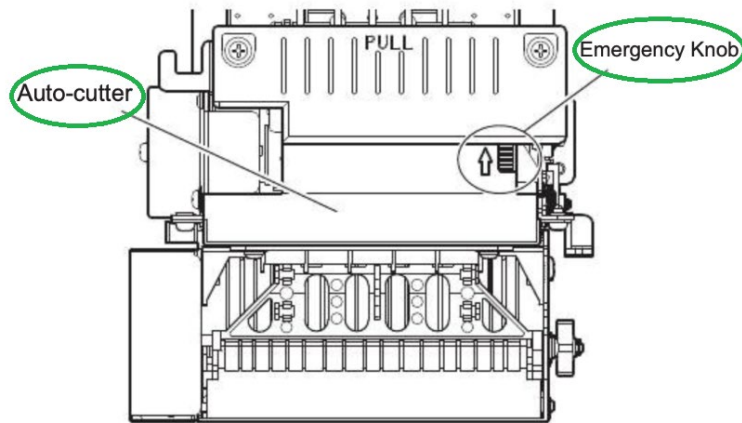

Figure 79. Printer Auto Cutter Release
- Use a tip of pen to roll the emergency knob in the direction of the arrow, as shown in Figure 79. This should remove any jam caused by paper or debris
- Rotate the emergency knob in the direction of the arrow on the top of the auto-cutter unit case to return the cutter blades to their home position, as shown in Figure 79